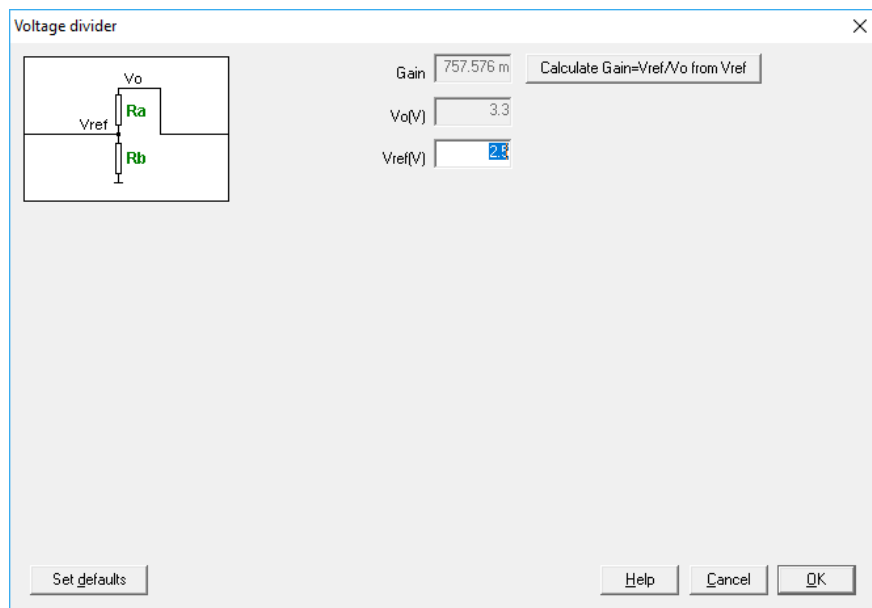

Figure 7: Defining the sensor
- Configure the sensor. See Figure 6 and Figure 7.